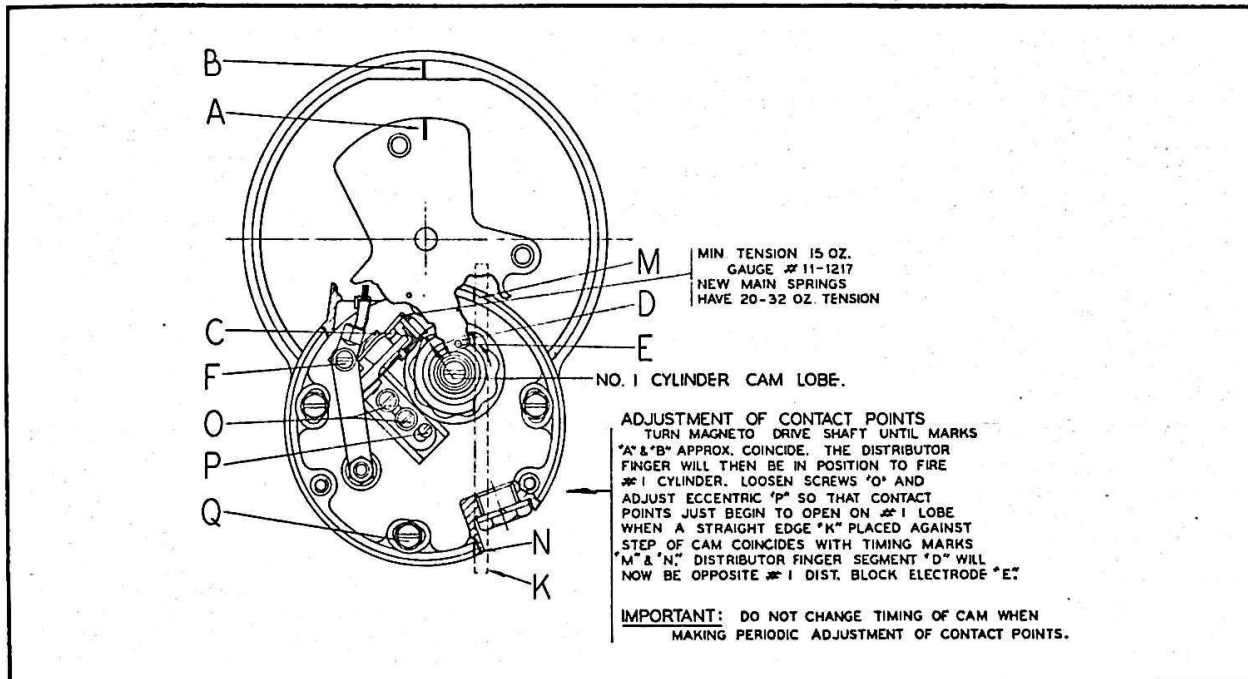

Figure 3 - Magneto Timing.
b. NO. 1 FIRING POSITION OF MAGNETO. - Remove the main cover, breaker cover, and distributor block. Turn the magneto drive shaft until the timing mark (A) (figure 3) on the distributor finger is approximately opposite the timing mark (B) on the inside of the front end plate when a straight edge (K) placed on the step cut in the cam coincides with the timing marks (M) and (N) at the end of the breaker adaptor. At this position, the high tension electrode (D) on the distributor finger will be opposite the distributor block electrode (E) for firing the No. 1 cylinder. Install the magneto to the engine in the foregoing relation but do not tighten the cap screws or nuts to the extent that further adjustment cannot be made.
(1) When the exact timing is to be made, all adjustments must be made at the drive end and NOT BY ALTERING THE ADJUSTMENT OF THE CONTACT POINTS.
(2) Make final timing adjustments by turning magneto through the angle provided by the slots in the mounting flange so that the contact points just begin to open when a straight edge (K) placed on the step of the cam coincides with the timing marks (M) and (N) on the breaker adaptor (figure 3). It may be found that timing mark (A) on the distributor finger is not exactly opposite the timing mark (B) on the inside of the front end plate after making the final adjustment by having the straight edge (K) on the cam coinciding with the timing marks (M) and (N). However, a slight variance of the distributor finger timing mark (A) will not affect the operation of the magneto as this is merely used to locate the approximate firing position of the magneto for No. 1 cylinder.
a. If inspection shows that adjustment is necessary, loosen the two screws (O) (figure 3) which fasten the movable contact support to the breaker plate. Adjust the movable contact point by means of the eccentric screw (P) so that the points just begin to open on the No. 1 lobe when the straight edge (K) coincides with the timing marks (M) and (N). Tighten the screws (O) when the setting has been made and recheck the adjustment.